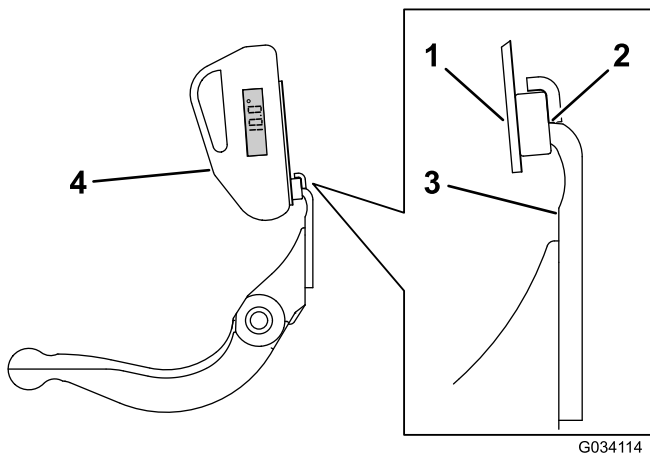

Figure 31
3. Place the angle-indicator mount on the edge of the bedknife so that the edge of the magnet is mated with the edge of the bedknife (Figure 31).
4. Place the angle indicator on the mount as shown in Figure 31.